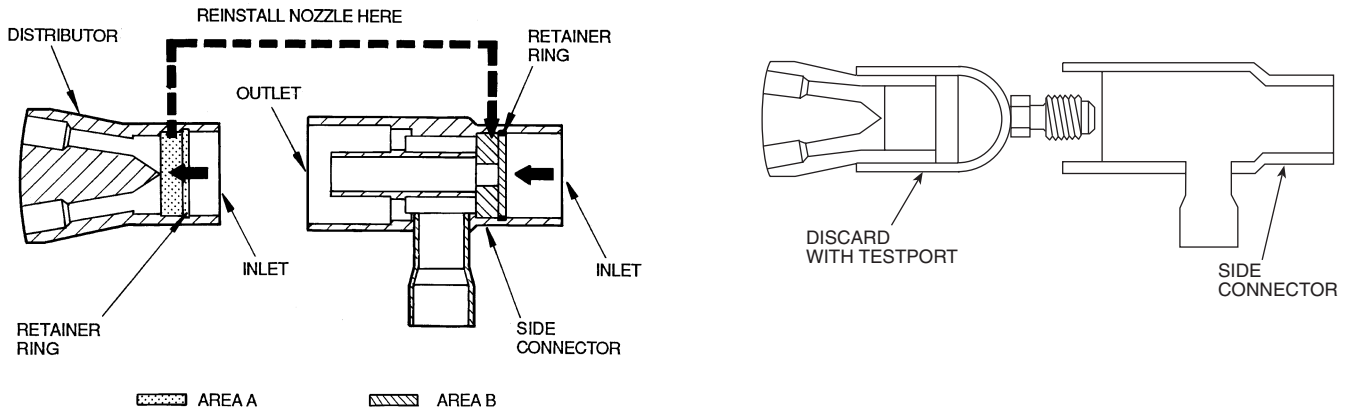

Fig. 60 — Distributor and Hot Gas Bypass Auxiliary Side Connector
1. Remove distributor nozzle and retainer ring (area A) from distributor and reinstall in inlet (area B) of side connector. See Fig. 60.